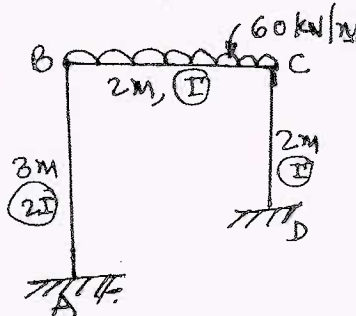

Fig.Q.6
- 6 Analyze the frame shown in Fig.Q.6 by using Kani's method. Draw BMD. (20 Marks)